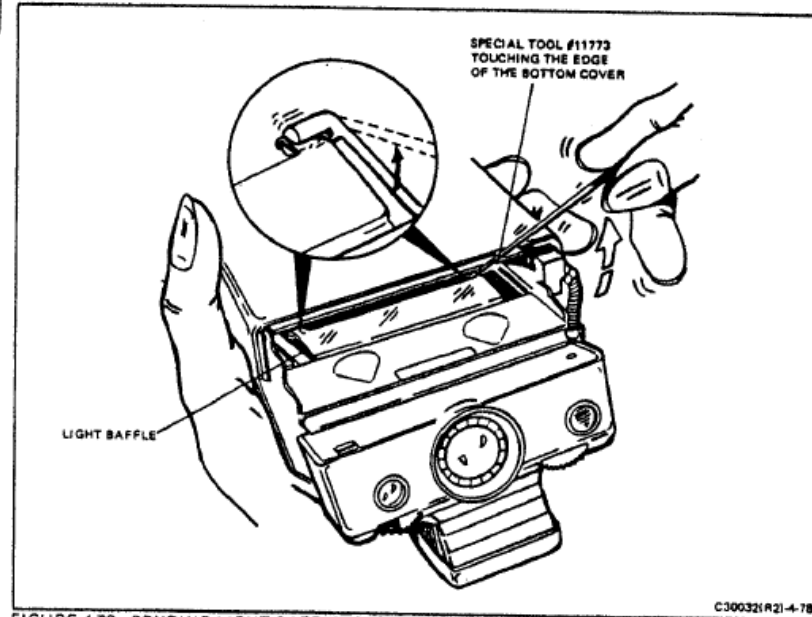

FIGURE 4-78 BENDING LIGHT BAFFLE EARS
- e. Keep the long handle of the tool handle aligned with the side of the baffle and slide the end to the inside of the camera, thereby catching the baffle in the slot (Figure 4-78).